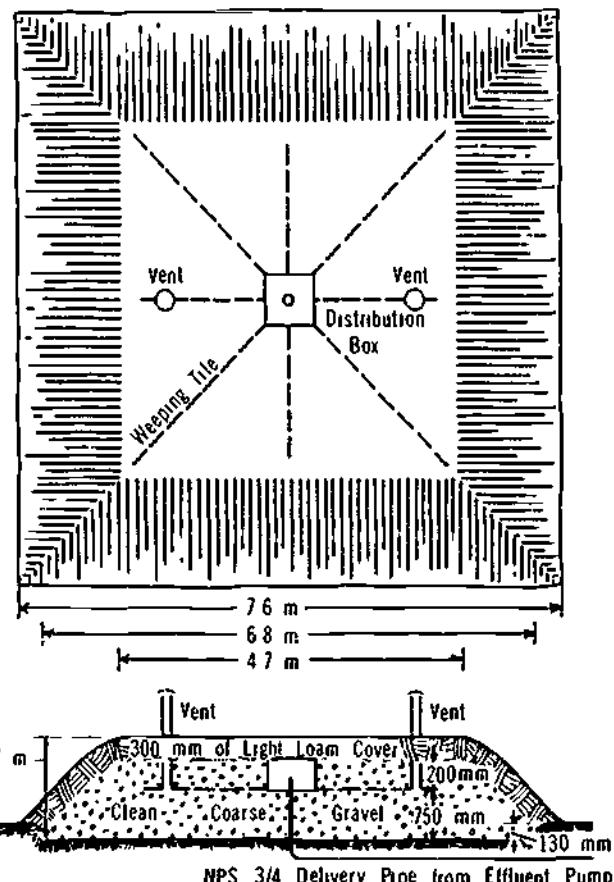

Figure 24-19. Domestic Installation — Above-Ground Filter
e) An above-ground filter, as shown in Figure 24-19, may, if approved, be used where the water table is very high or the soil is exceptionally impervious.